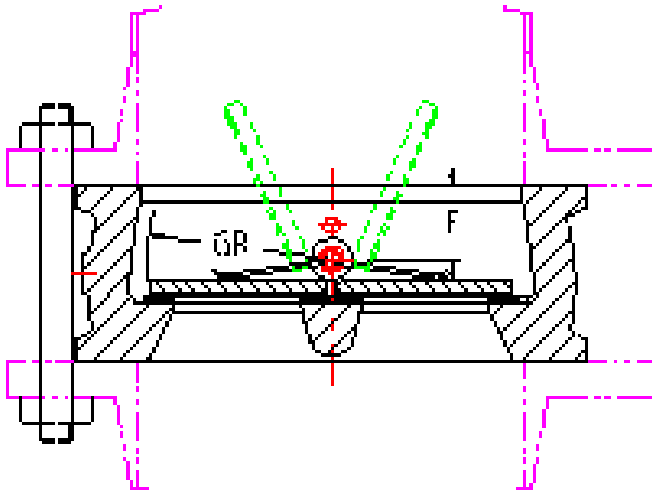

Fig.4.
- e. Avoid entering the end of a tube or gasket within the opening area of a radius of the wafer Check plate. (see Fig. 4)